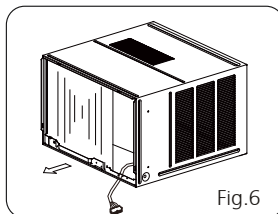

Fig.6
2. Grasp the handle on the chassis and carefully slide the air conditioner out of the cabinet. (see Fig. 6)